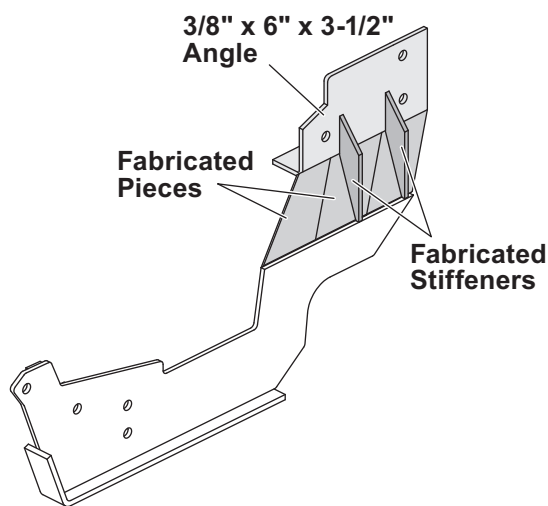

Figure 4
11. Use the 5/16" x 2" flat bar to fabricate a minimum of two stiffeners that will attach between the pushplate, the pieces that span between the 3/8" x 6" x 3-1/2" angle, and the angle itself (see Figure 4).